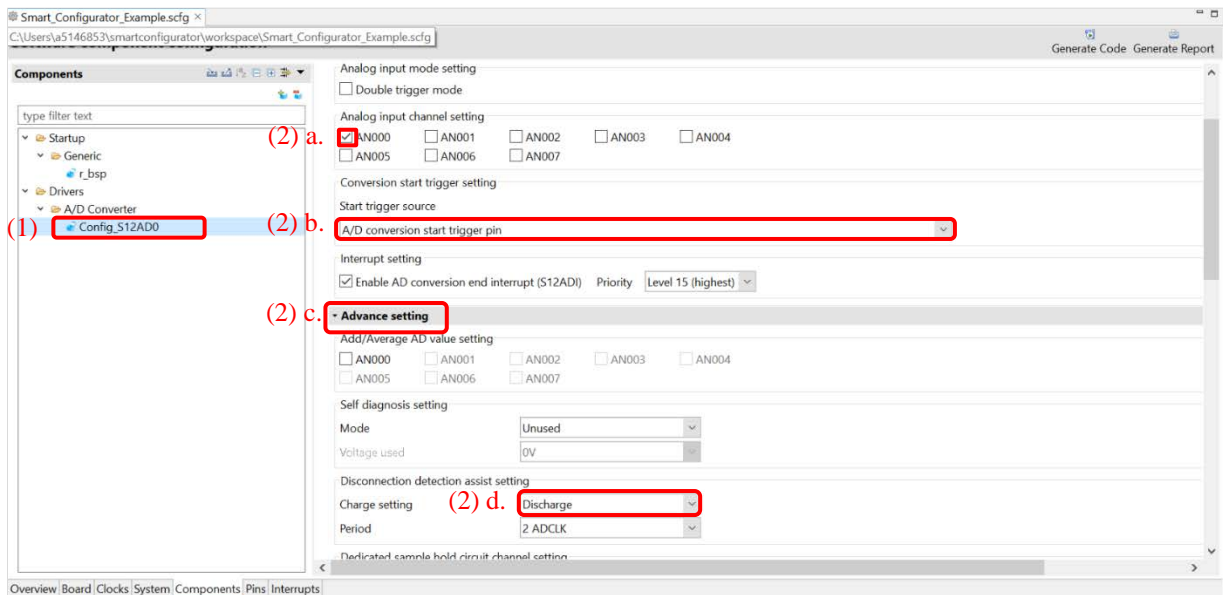

Figure 4-17 Component Configuration Settings
- (1) Click the component in the component tree. (e.g. Config_S12AD0).
- (2) Configure the driver in the [Configure] panel to the right of the Components tree. The Figure 4-17 is an example.